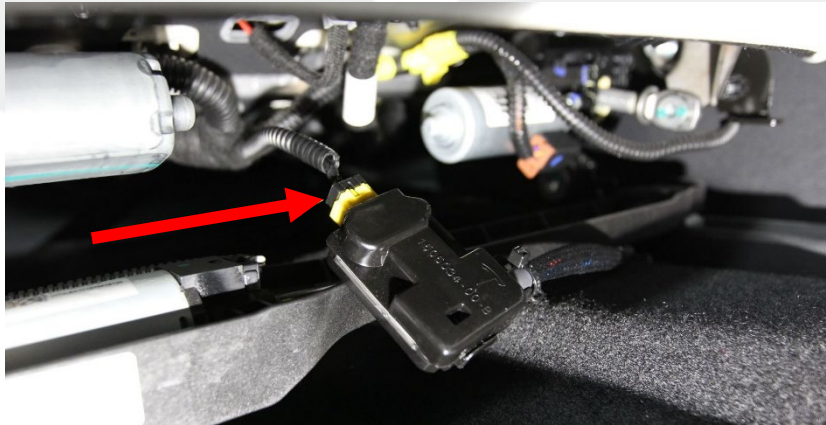

Figure 2
4. Connect the chassis CAN communication harness to the OCS filter module connector (Figure 2).